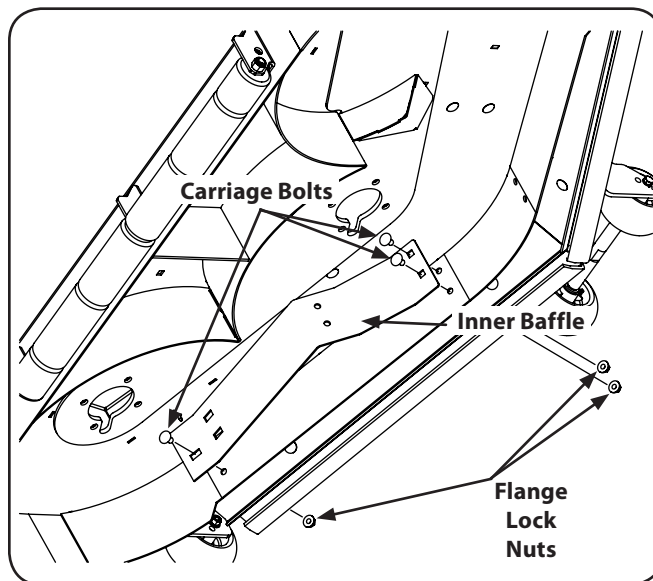

Figure 6-12
1. Remove the carriage bolts and flange lock nuts that secure the baffle to the deck to mow high-volume grasses. See Fig. 6-12.